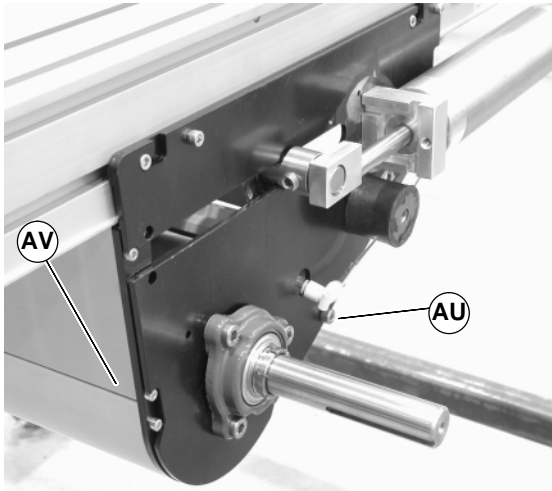

Figure 23
6. Temporarily support the tensioning roller guard (AV of figure 23). Remove screws (AU of Figure 23) on
both sides of center drive and remove tensioning roller guard (AV of Figure 23 and 24).